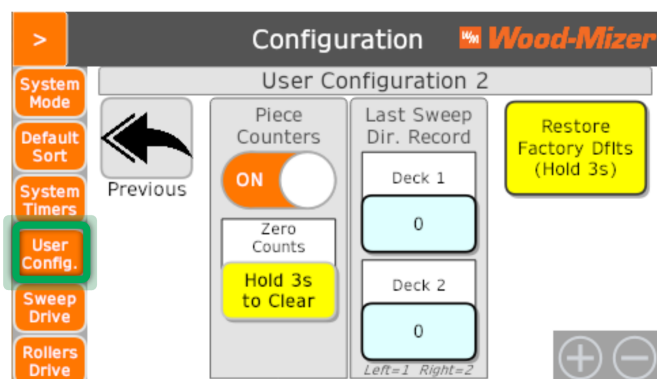

FIG. 3-15
7. To restore factory defaults for the whole screen, press Restore button for 3s. See FIG. 3-15